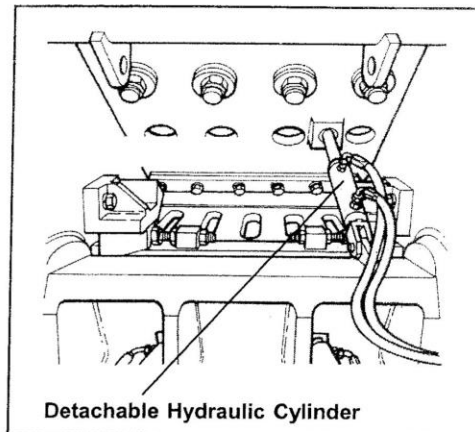

Figure 9g Hydraulic Cylinder Location
4. Mount the hydraulic cylinder on the lug of the crusher body (Figure 9g) so that the ram will engage in the recess in the back of the jawstock.